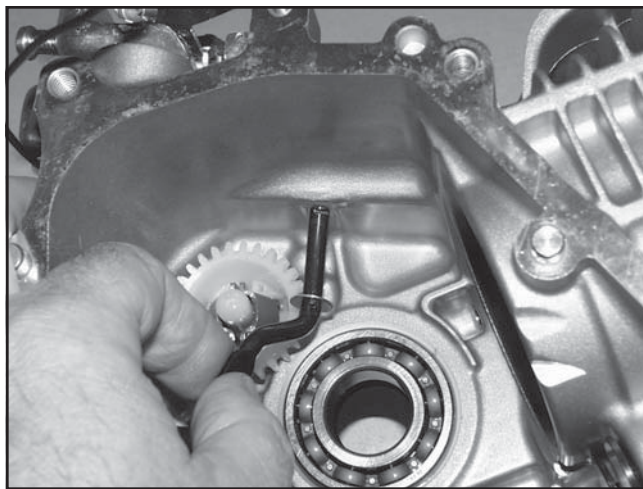

Figure 11-8. Installing Governor Shaft.
3. Install one thrust washer onto the governor cross shaft and slide the shaft up through the inside of the crankcase. See Figure 11-8.